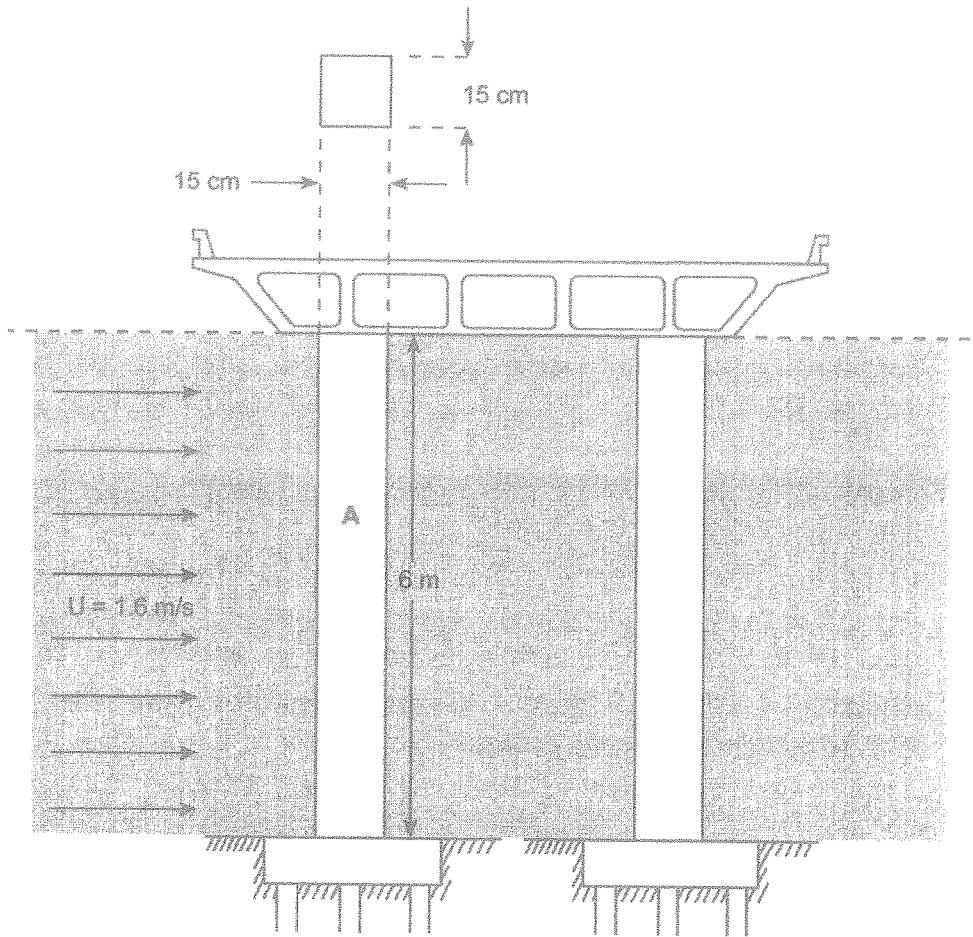

Figure Q2(b)
- b) Figure Q2(b) shows a cross-section of bridge, which is constructed over a river on reinforced concrete columns. Height of each column is 6 m and the cross-section is a square of 15 cm sides. On a rainy day, columns are completely covered by a uniform flow of water, flowing at a velocity of 1.6 m/s. Estimate the maximum bending moment exerted by the flow at bottom of the column A. [4.0 Marks]